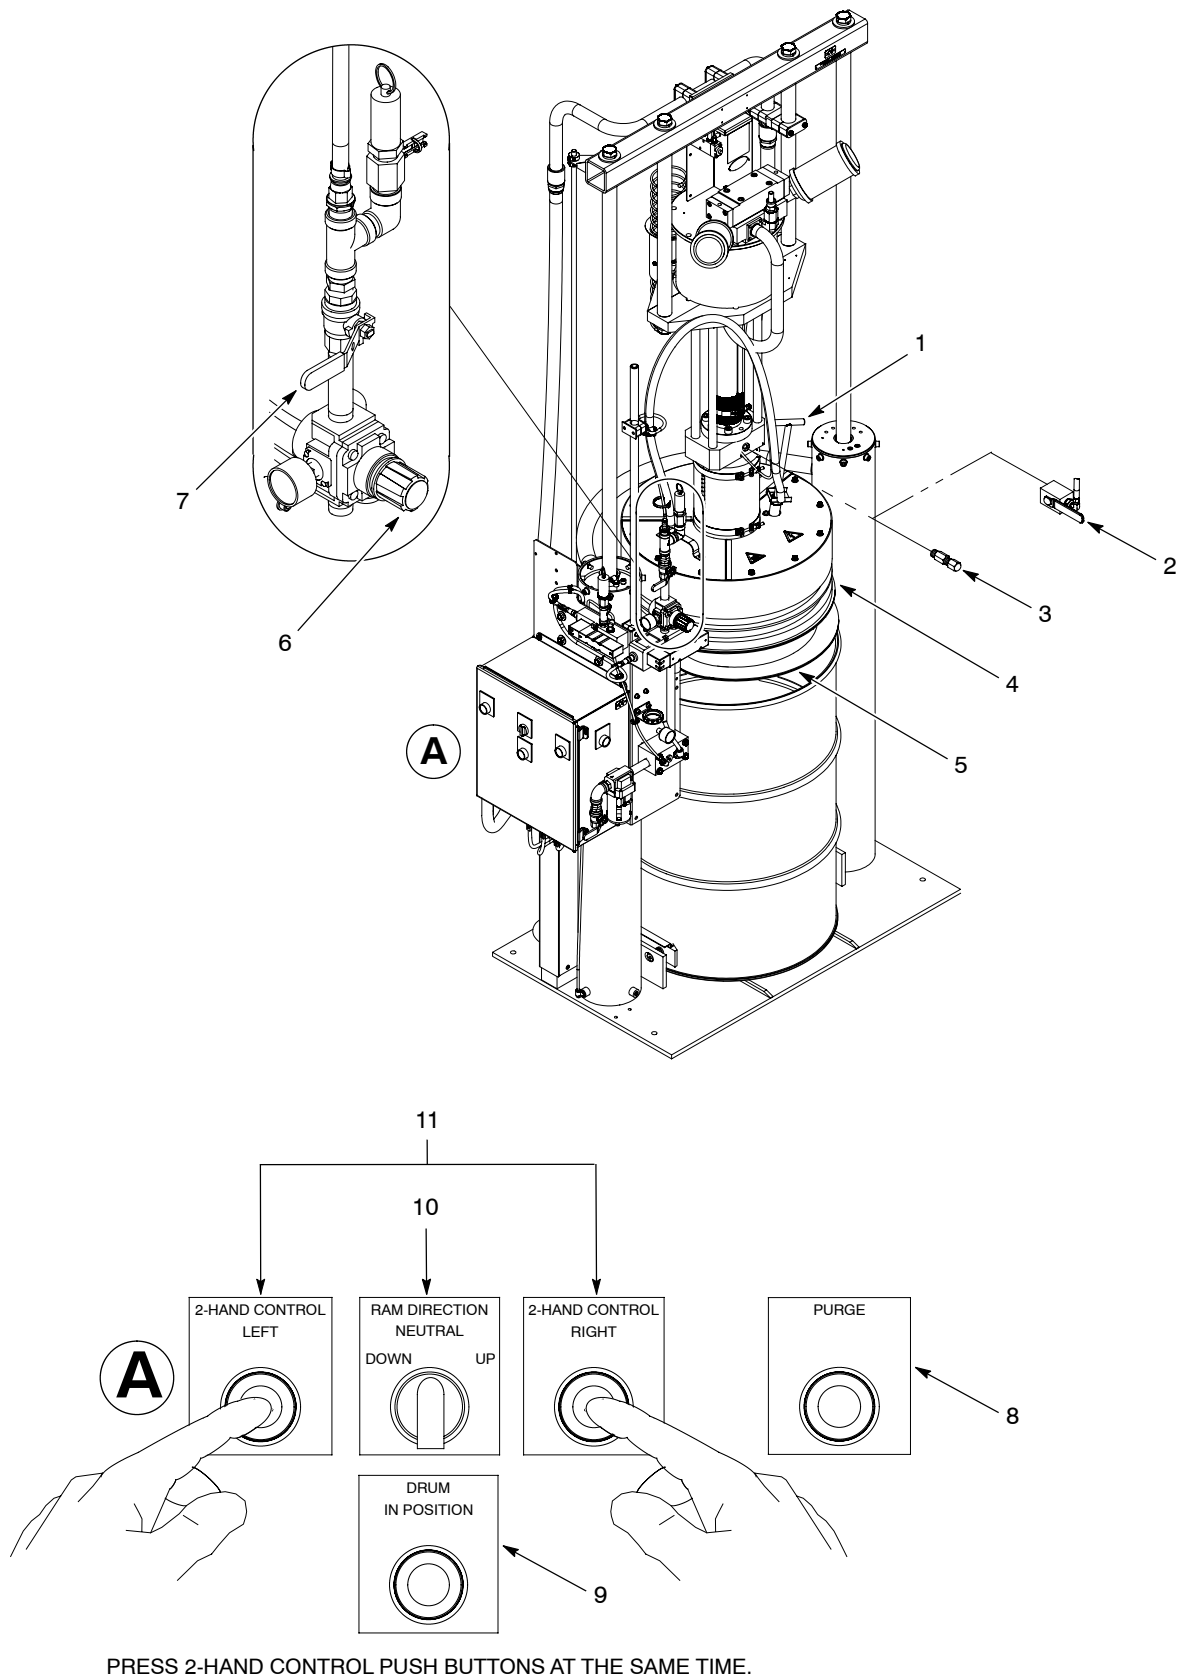

Figure 2 Changing a Container
1. See Figure 2. Make sure that the DRUM IN POSITION light (9) is on.
2. Select DOWN on the RAM DIRECTION switch (10). Press and hold in the LEFT and RIGHT 2-HAND CONTROL push buttons at the same time to manually lower the follower into the drum.
3. When the follower enables the Follower In Drum switch, release the LEFT and RIGHT 2-HAND CONTROL push buttons (11). The follower automatically moves downward as material is pumped from the drum.